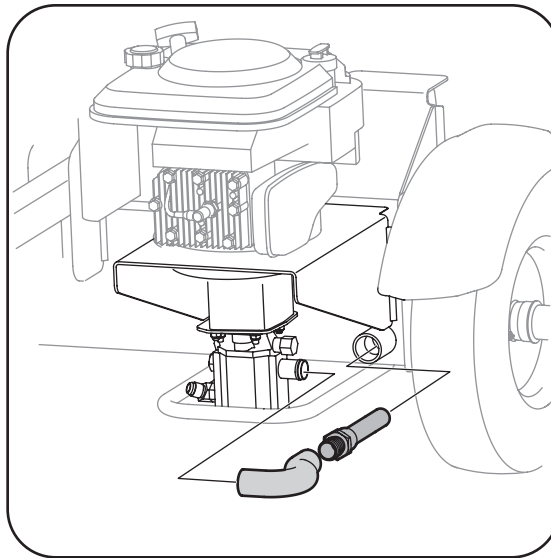

Figure 5-2
2. Carefully unthread the inlet filter and clean it with penetrating oil. See Figure 5-2.
4. Reinsert the filter and refill the reservoir with three (3) gallons of oil. Approved fluids include Dexron® III / Mercon® III automatic transmission fluid, a 10 Weight AW hydraulic oil or Pro-Mix™ AW-32 Hydraulic Oil.